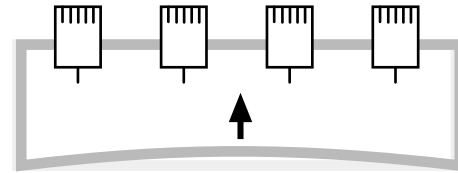

Fig. 1
3. Remove set screw indicated in arrow mark on back of the Border frame and take out Border frame slowly toward you as shown in Fig. 1.
Insert set screw lightly as shown in Fig. 1 for mounting Border frame and tighten set screw pulling Border frame toward an arrow mark (to your side).
If you embroider patterns dense in stitches like wappen to the brim of border frame, front part of border frame is pulled inside by shrinkage of fabric and there is a chance that front part of border frame bends as shown in Fig.1.